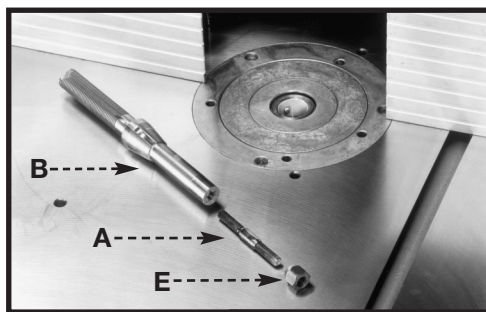

Fig. 4
1. Thread one end of the tie rod (A) Fig. 4 into the threaded hole in the bottom of the spindle (B).
3. Thread the nut (E) Figs. 4 and 7 on the bottom end of the tie rod (A).